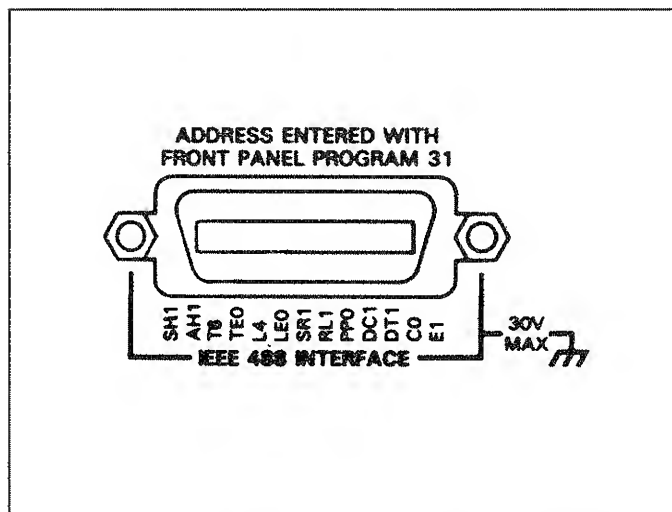

Figure 3-4. IEEE-488 Connector Location
1. Line up the cable connector with the connector located on the rear panel of the instrument. The connector is designed so that it will fit only one way. Figure 3-4 shows the location of the IEEE-488 connector on the instrument.